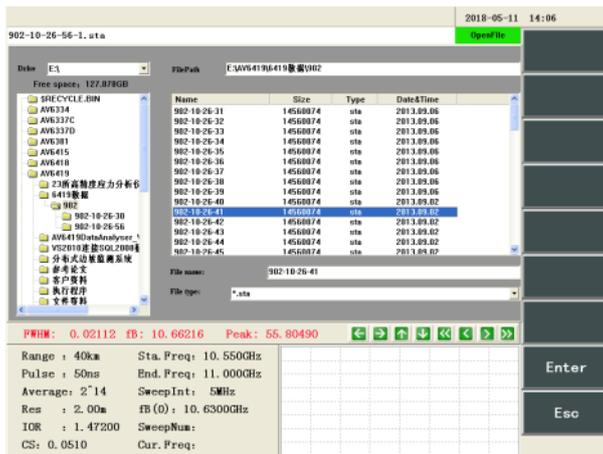

Figure 8-22 File deleting interface
Step 1: Click [File] → [Delete] on the main interface to enter the interface as shown in Figure 8-22.
Step 2: Select the index disk in the file deleting interface of Figure 8-22, list the information tree under the index disk, select the file folder and file type, all the files in the folder will be listed, select the files to be deleted from the list, and click [OK] to delete the file.